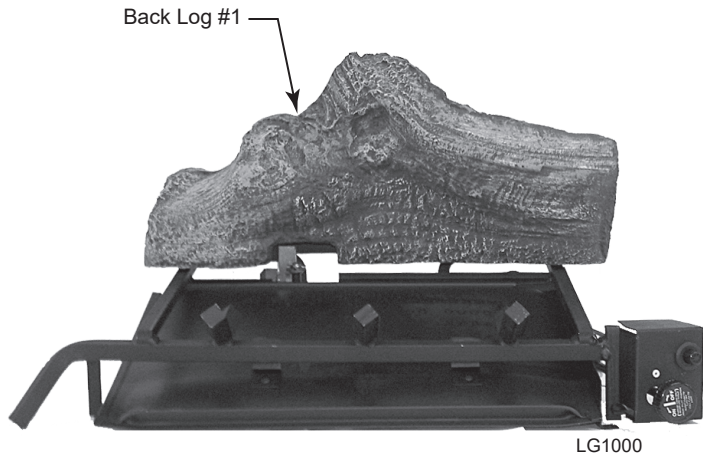

Figure 29
1. Place back log (#1) on back of base aligning two (2) pins on base with holes in bottom of log. *Figures 29 and 30*